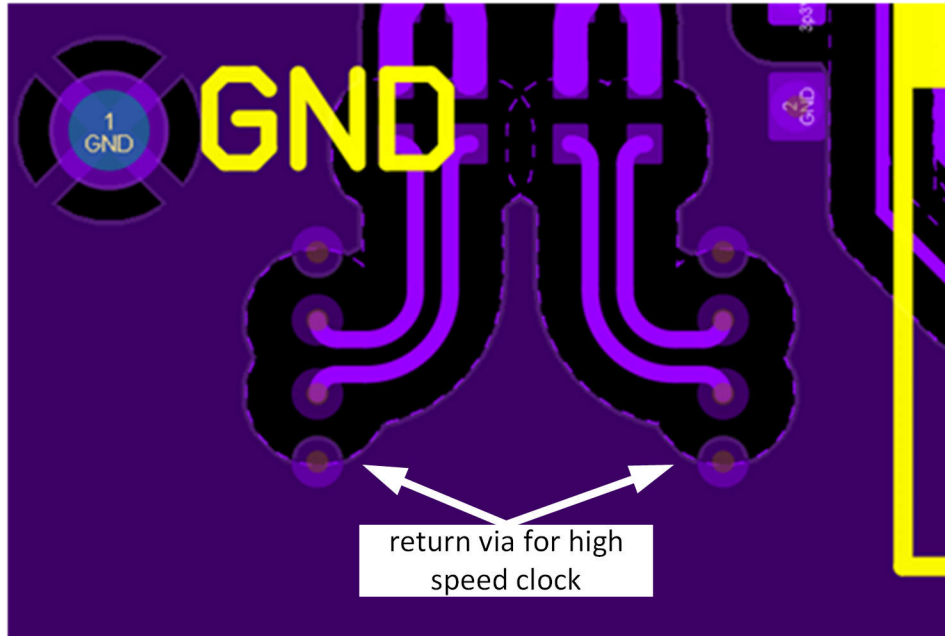

Figure 9-12. Return Vias for High Speed Clock
8. When high-speed signals must transition to another layer using vias, transition as far through the board as possible (top to bottom is best case) to minimize via stubs on top or bottom of the vias. If layer selection is not flexible, use back-drilled or buried, blind vias to eliminate stubs. Always place two ground vias (“return vias”) close to critical high-speed signal trace via when transitioning between layers to provide a nearby ground return path. See Figure 9-12 as an example.